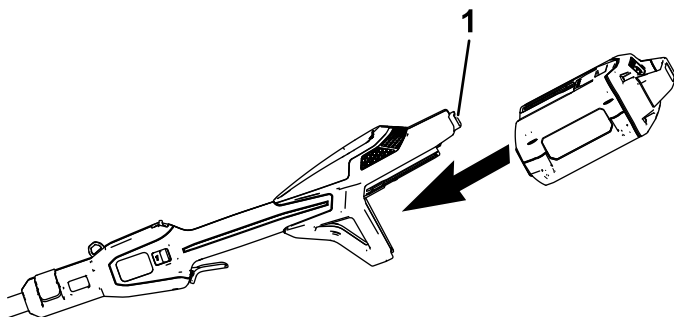

Figure 11
2. Align the cavity in the battery pack with the tongue on the power head (Figure 11).
3. Push the battery pack into the power head until the battery locks into the latch (Figure 11).